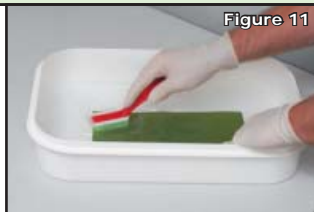

Figure 11
**12** Using the **PROSERIES** washout brush, apply light hand pressure and brush the cliché in a circular motion, brushing for at least 3 minutes (or sufficient amount of time to remove all of the unhardened emulsion.) (Figure 11)